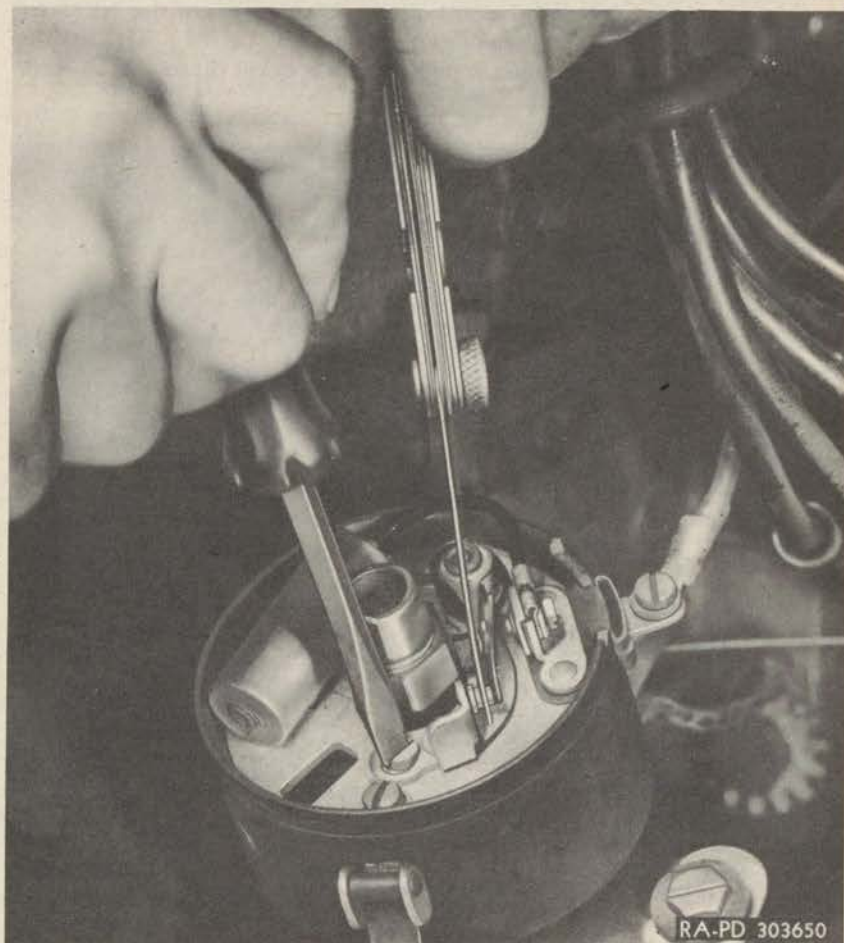

Figure 77—Adjusting Breaker Point Gap to 0.020 inches
(4) **ADJUST POINT GAP.** Loosen the lock screw holding the stationary point to the breaker plate. Use a 0.020 wire feeler gage between the breaker arm point and the stationary point, and turn the eccentric adjusting screws until the proper gap is obtained (fig. 77). Tighten the lock screw holding the stationary point to the breaker plate. Install rotor and replace distributor cap.